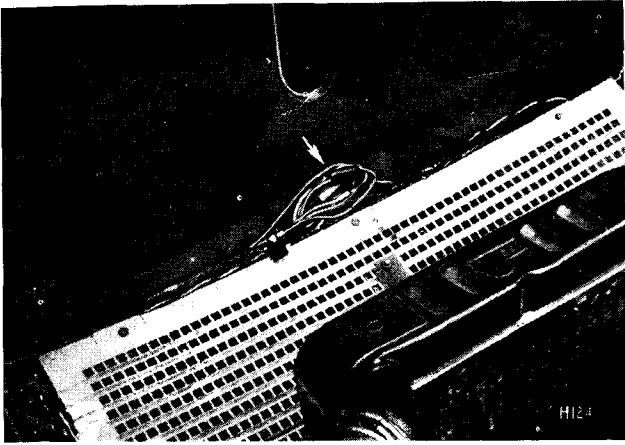

Fig. 11. Bonnet snap connectors
- lighting cables at bonnet (Fig. 11);
Disconnect the front lighting and horn cables at the snap connectors on the top centre of grille (Fig. 11).